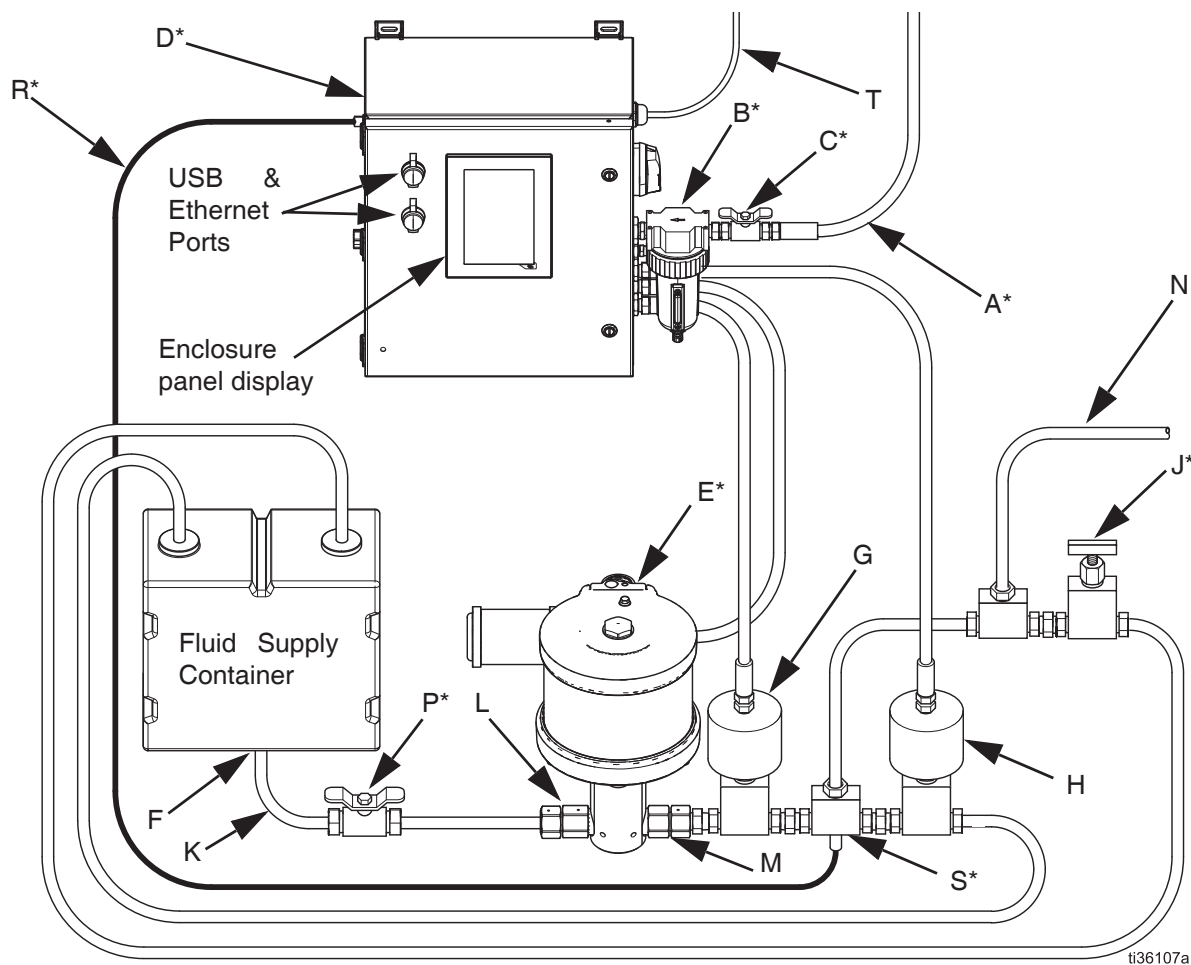

FIG. 1: System Layout
3. Attach the transducer (S) close to the pump's outlet port (M). (See FIG. 1 on page 8.)
4. Connect the transducer cable (R) from the transducer connection (10) to the transducer (S).
5. Turn the disconnect switch (8) to the ON position.
2. Turn the disconnect switch to the OFF position. (See FIG. 1 on page 8.)
3. Insert the USB drive with the new software into the USB port on the front cover of the enclosure. (See FIG. 1 on page 8.)
FIG. 1 is an example of enclosure installation with a pressure test system. Your installation may differ from what is shown here.
The following components, see FIG. 1, are supplied by HiP:
The following components, see FIG. 1, are available from HiP or supplied by the customer: